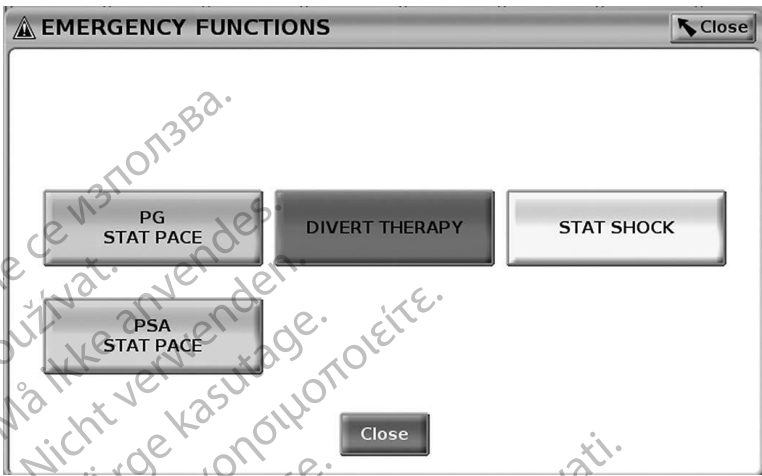
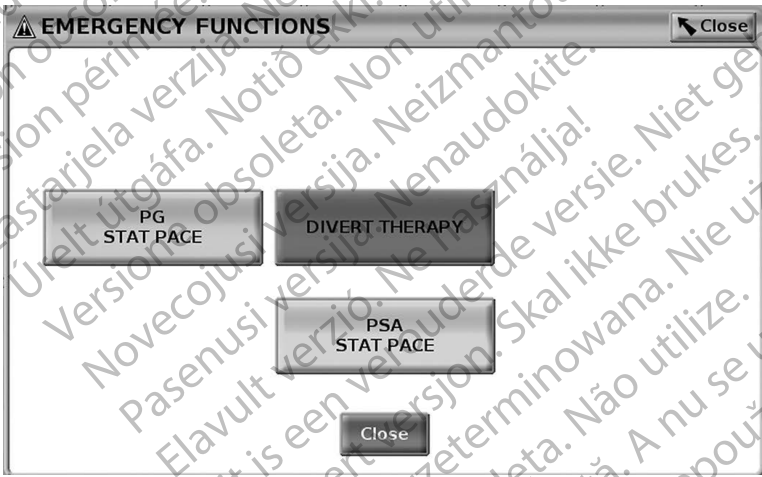
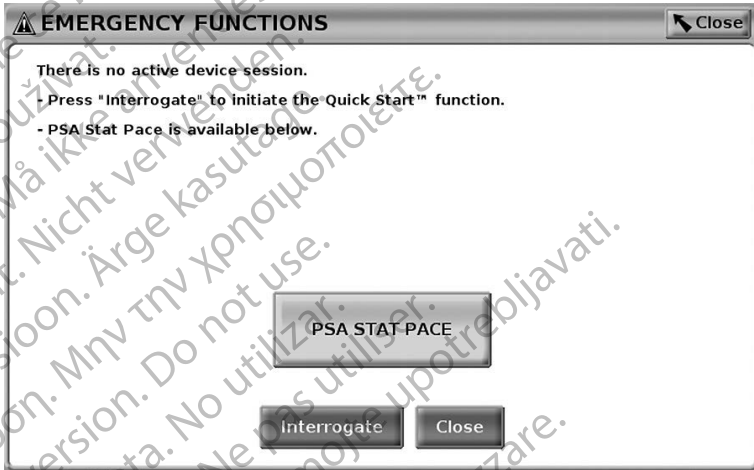

Figure 20. Red STAT Button pop-up in a High Voltage transvenous PG session with the PSA application running
Figure 21. Red STAT Button pop-up in a Low Voltage transvenous PG session with the PSA application running
Figure 22. Red PSA STAT PACE Button Pop-up outside any PG session with the PSA application running
The red STAT button, , is at the top right of the Model 3300 Programmer to provide a rescue shock or pacing. The STAT function is available in the same location at all times to initiate a PSA STAT PACE or deliver a rescue pace or shock. Pressing the STAT button displays the Emergency Function screen as shown in Figure 20 and Figure 21 on page 31, and Figure 22 on page 32. Check the pulse generator labeling for specific details of the STAT parameters.
- When in telemetry communication with a high voltage (ICD or CRT-D) PG, a pop-up displays allowing the user to initiate a PG STAT PACE, STAT SHOCK, or DIVERT THERAPY command. If a PSA session is in progress, a PSA STAT PACE option also displays as shown in Figure 20 on page 31.
- When not in communication with a PG, an Interrogate button displays with text prompting the user to perform Quick Start to attempt to identify the device (see Figure 22 on page 32). Once in a session with an implanted transvenous device, press the red STAT button again to display available options.
In Figure 20, the top row buttons (PG STAT PACE, DIVERT THERAPY, and STAT SHOCK) display only during a High Voltage transvenous PG session. PSA STAT PACE displays when the PSA feature is active.
In Figure 21, the top row button (PG STAT PACE) displays only during a Low Voltage transvenous PG session. PSA STAT PACE displays when the PSA feature is active.
If in a PSA session only (no PG interrogated), then the dialog in Figure 22 displays along with the PSA STAT PACE button.